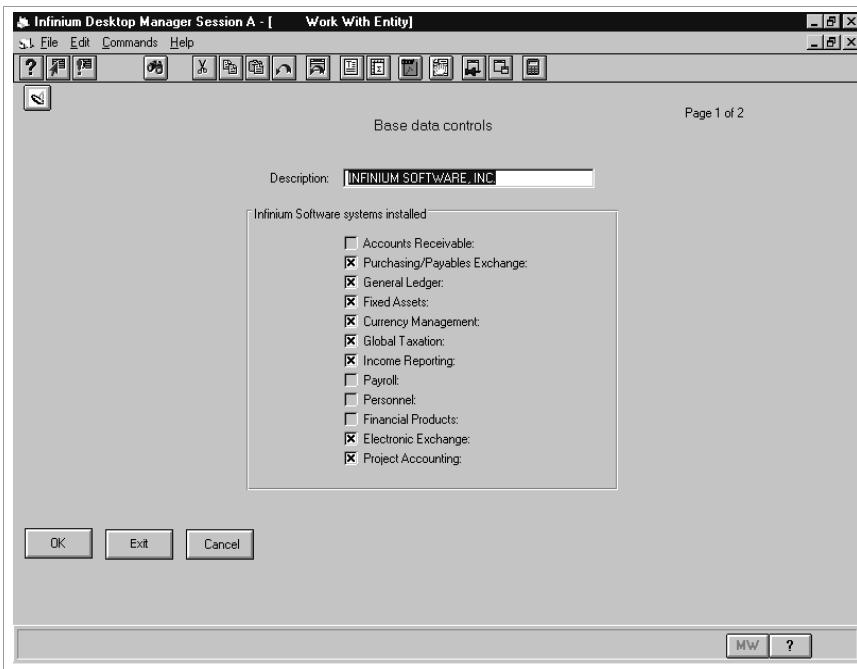

Figure 3-3: Work With Entity Base Data Controls screen 1
- Select *Base data controls*. Select *Change* or type 2 and press Enter. The system displays the screen shown in Figure 3-3.